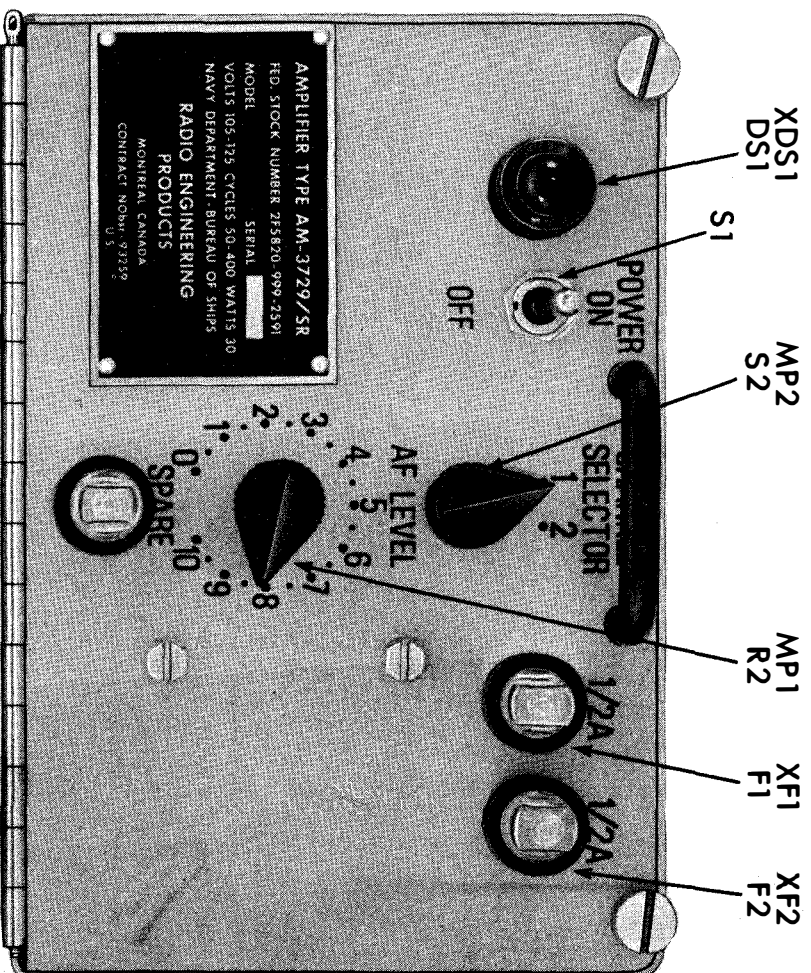
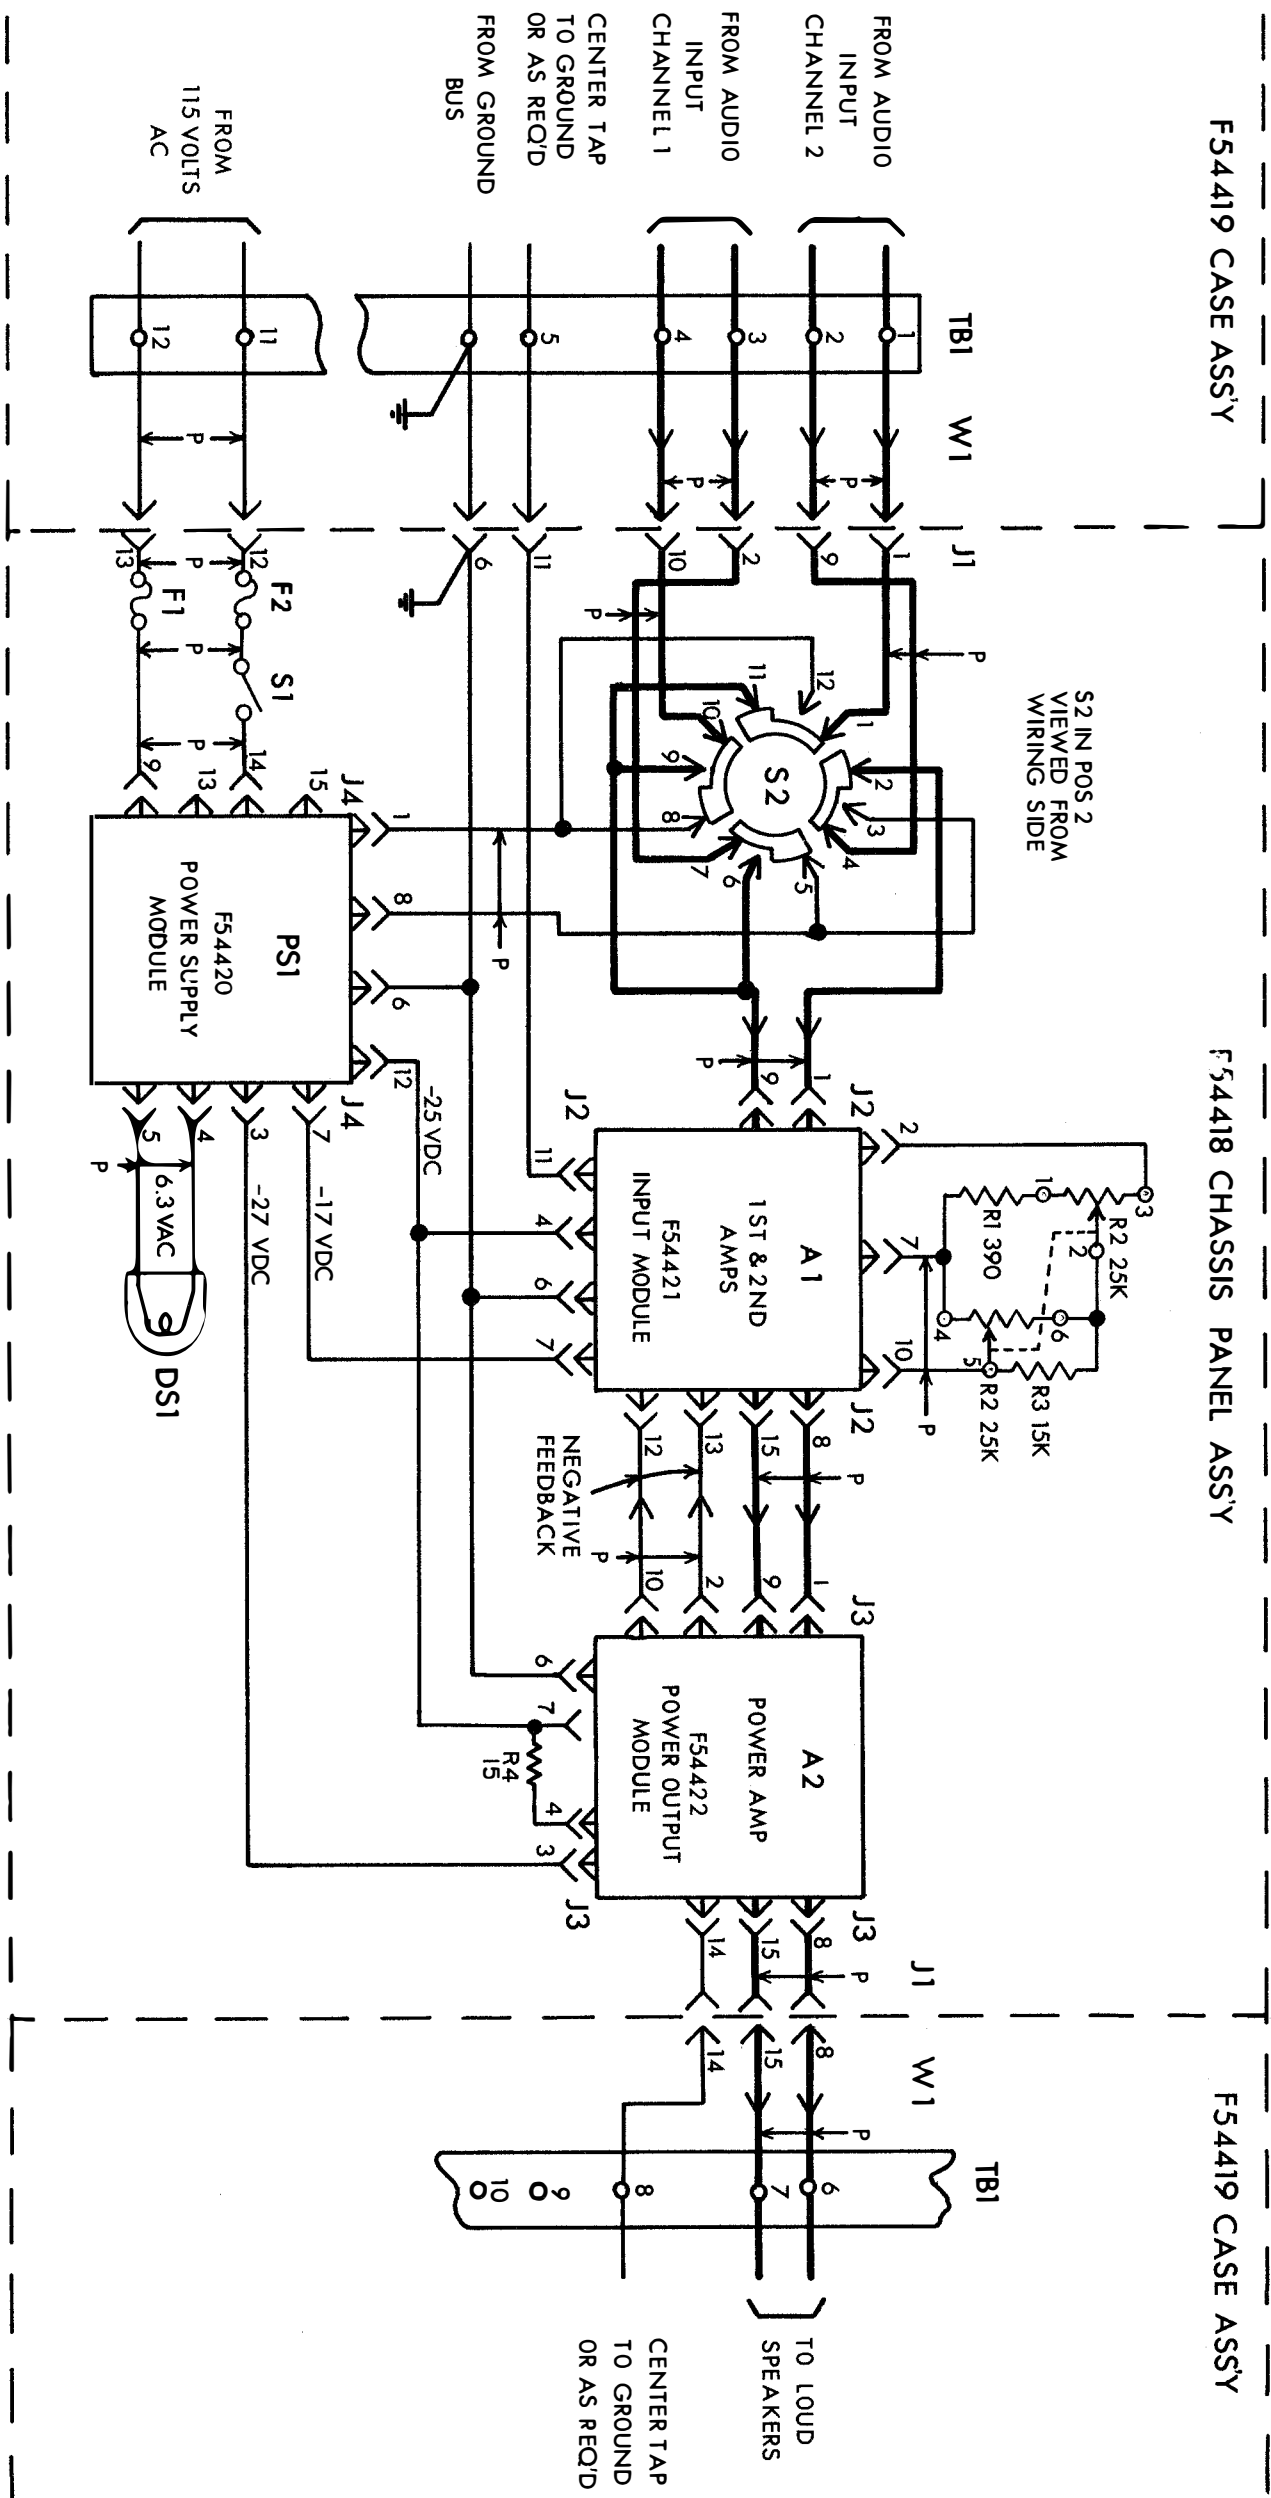

Figure 3-1. Operating panel.
Figure 5-3. Amplifier AM-3729/SR, Schematic.
- a. Operating controls of the amplifier are shown in figure 3-1.
This is a transistorized amplifier with an input module, a power output module and a power supply module. The schematic is shown in Figure 5-3.
- b. The location of parts is shown in figures 3-1, 5-1 and 5-2. The schematic and wiring diagrams are figures 5-3 and 5-4. Do not replace any major parts until sufficient testing has been done to prove that other parts or wiring are not at fault.